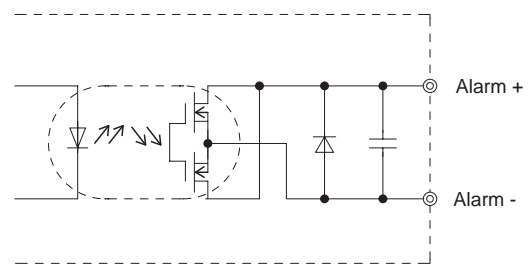

Fig.1.6 Internal circuit of Alarm
- The internal circuit is on Figure 1.6.